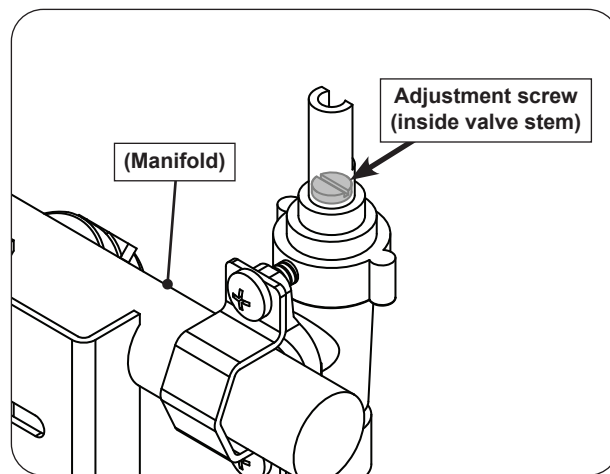

Fig. 26-1 Valve adjustment screw location
3. Locate the FLATHEAD adjustment screw found inside the valve stem (see Fig. 26-1).